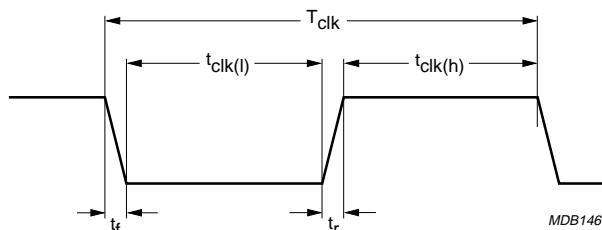

Fig 7. Aud\_clk characteristics
- aud\_clk: audio clock reference; can be  $256/384/512/768 \times f_s$  ( $f_s = 44.1$  to 48 kHz); see Figure 7 and Table 4